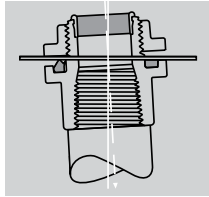

Fig. 1
- 1 Sealing ring and groove with innovative profile outperforms standard O-ring design. Sealing ring is captivated in place before installation and resists buckling or slipping during installation. The seal groove is designed for optimum compression of the sealing ring. The sealing ring is designed to provide a complete 360° seal, even when the conduit is not perpendicular with the enclosure. (See Figure 1)